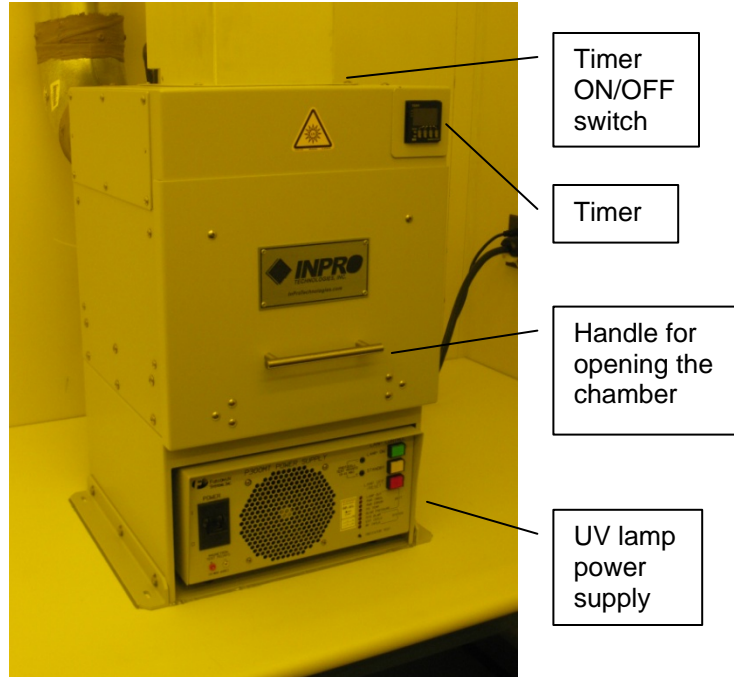

Figure 1: F300S Ultraviolet Flood Exposure System.
- Turn the timer on. Its ON/OFF switch is on the back of the system on the same corner as the timer (Figure 1). This will light up the timer.
- Open the chamber by pulling on the handle marked in Figure 1. If you pull the handle all the way, you will see the time that you just adjusted and that is displayed in green would also show up on bigger red display (Figure 3).
- d) Turn the timer off. Its ON/OFF switch is on the back of the system on the same corner as the timer (Figure 1).
- a) Open the chamber by pulling on the handle marked in Figure 1.